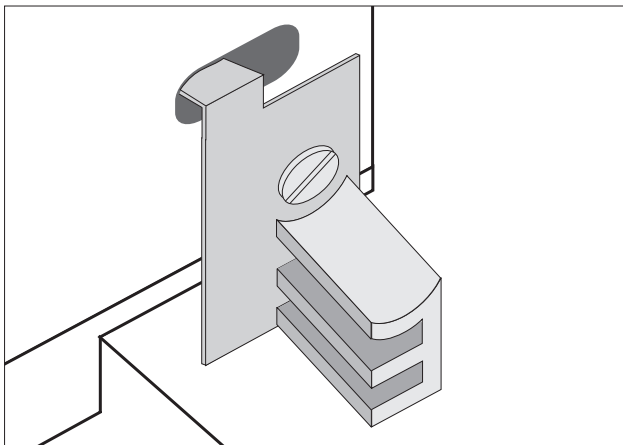

Fig 8-7 Release the Flip Latch
3. Use a flathead screwdriver to release the fliplatch from the power module. See figure 8-7.